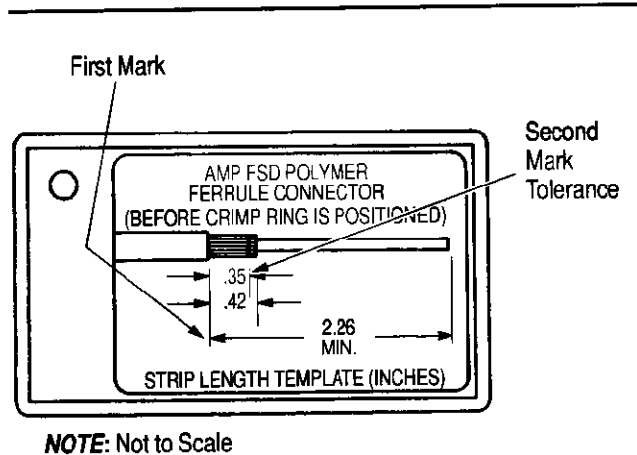

Figure 3
2. Mark the end of the cable for stripping. See Figure 3.
**NOTE** Shown in Figure 3, the 2.26 dimension is the FIRST mark. The .35 to .42 is the SECOND mark tolerance.
- Changed "before crimping" to "before crimp ring is positioned" in Figure 3.